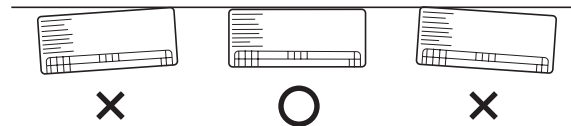

Fig. 3-20
- (2) Check with a tape measure or carpenter's level. This is important so that the unit is correctly installed. (Fig. 3-20)
- (3) Make sure the panel is flush against the wall. Any space between the wall and unit will cause noise and vibration.